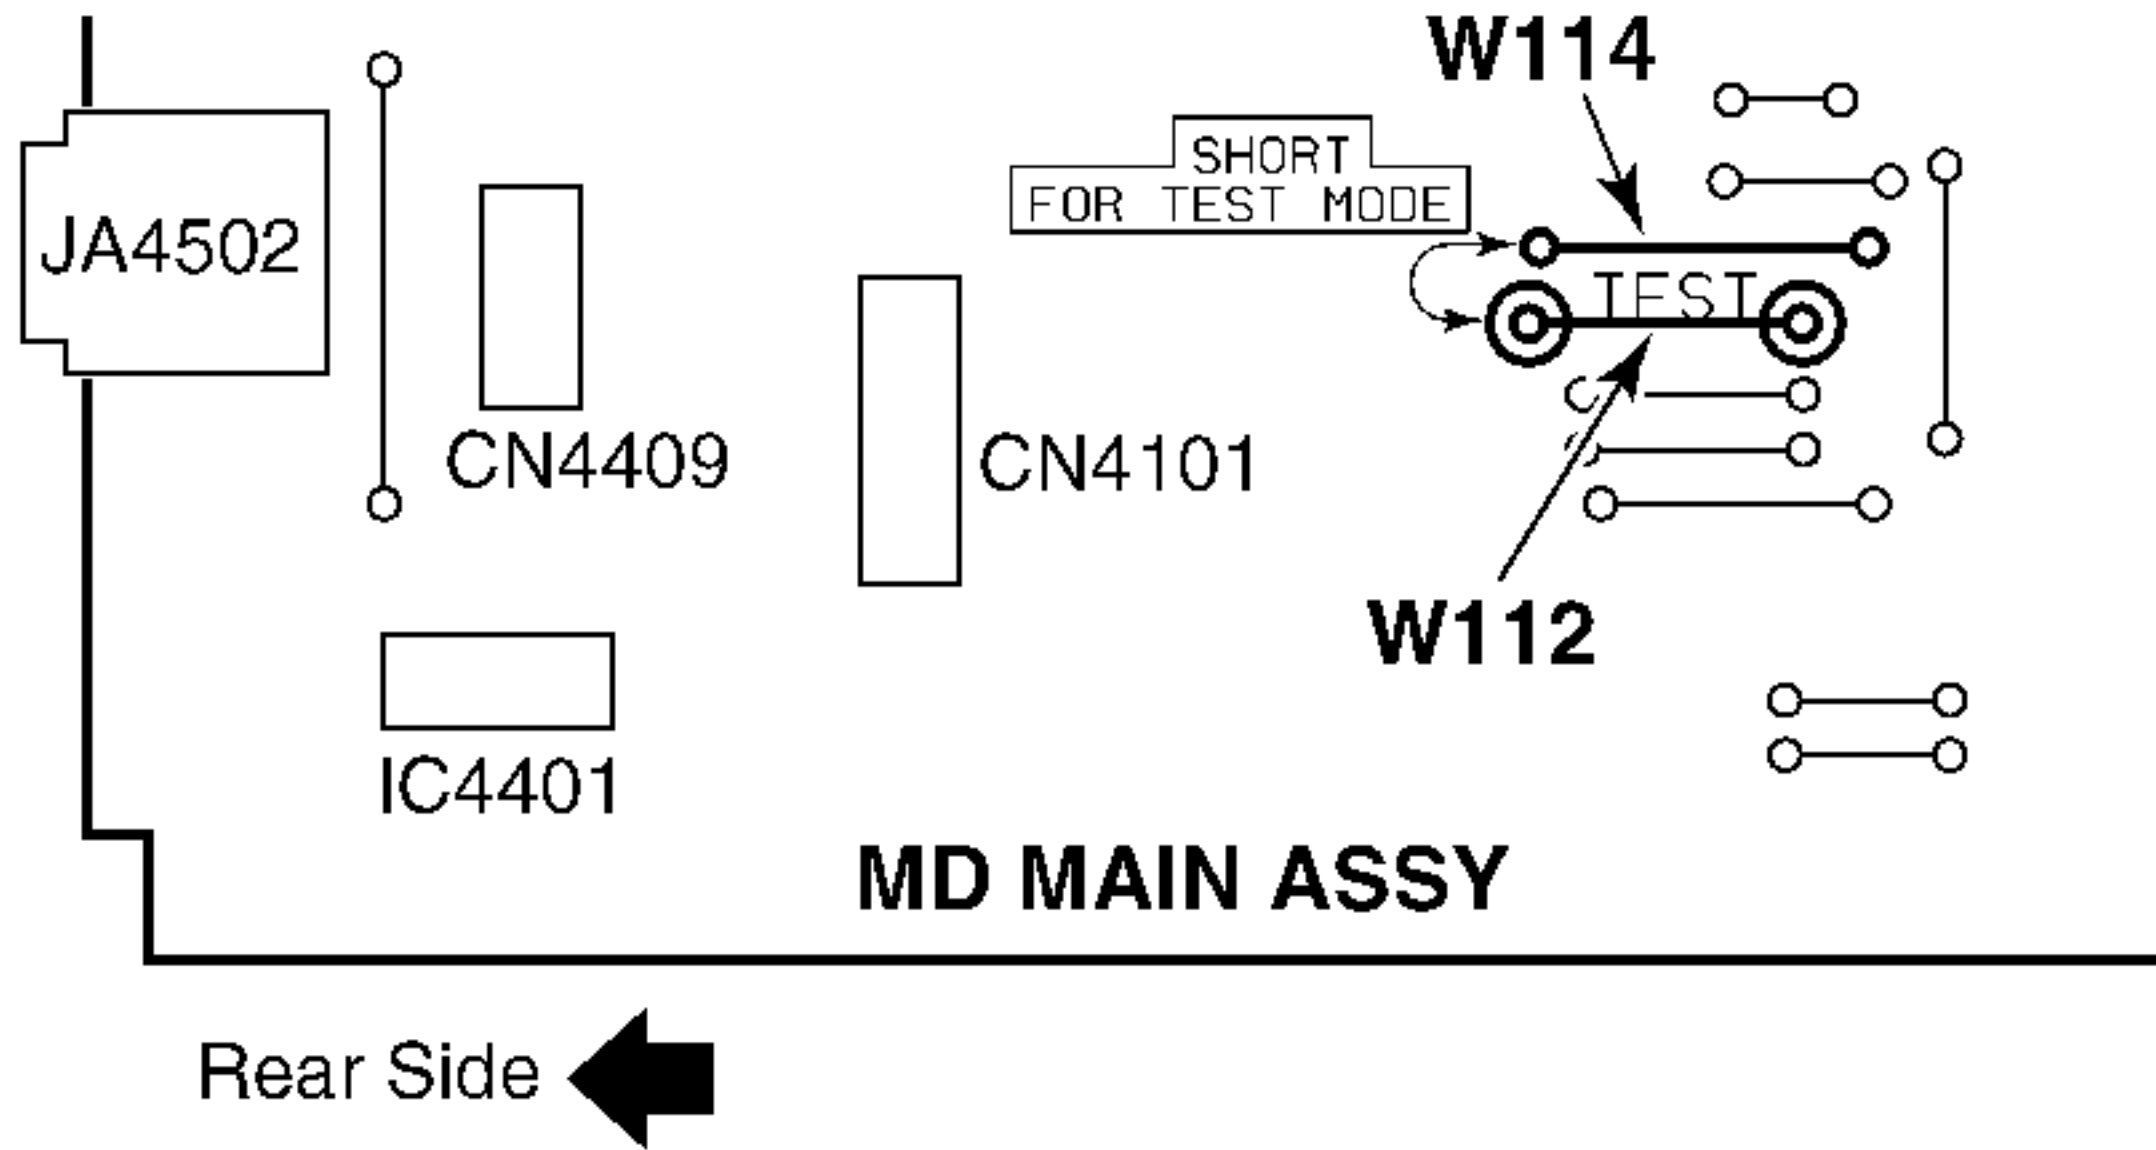

Fig. 6-2
- 2) While short-circuiting the W112 and W114 jumper wires of the MD MAIN ASSY, insert the AC cord of MJ-L7 into the outlet. (Refer to Fig. 6-2)